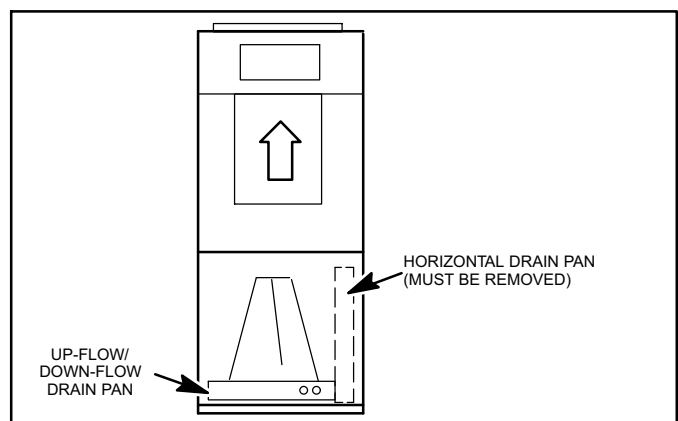

Figure 1. Up-flow Configuration
4. After removing horizontal drain pan, place the unit in desired location. Set unit so that it is level. Connect return and supply air plenums as required using sheet metal screws as illustrated in figure 1.